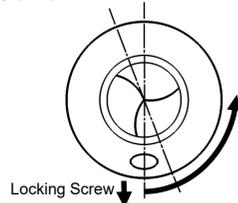

Fig. 4
- Remove locking screw from the bottom of the **front cover**. (Fig.4)
- Hold the main body, turn the front cover anti-clockwise. Note front cover position for re-assembly purposes. Lift the cover off. (Fig. 4)